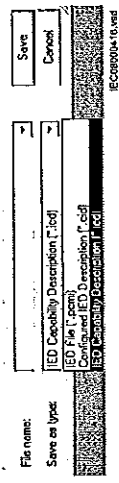

Figure 66: IEC 61850: Export IED file type selection
- IED Capability Description (\*.icd) for the IEC 61850 structure, see Figure 66.